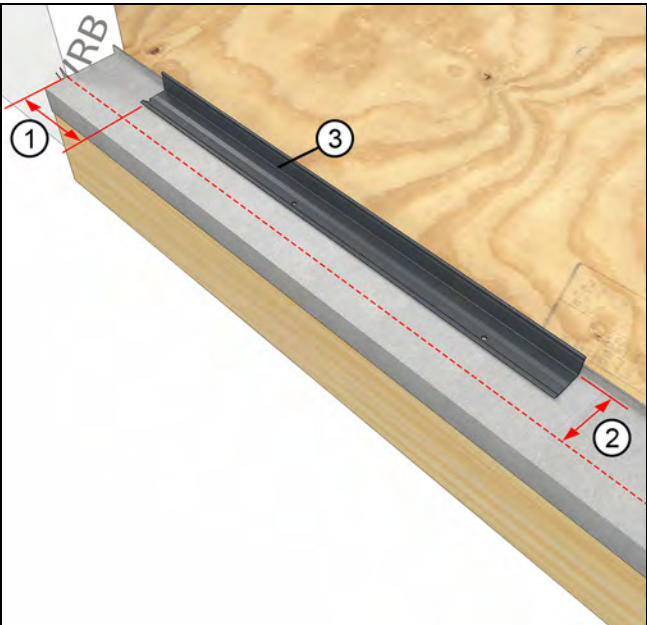

Figure 175
1. For configurations where the first unit you install in an opening is a door, measure 5 3/16" away from the rough opening and install the sill support 3 5/16" from the exterior sheathing line. See Figure 175.